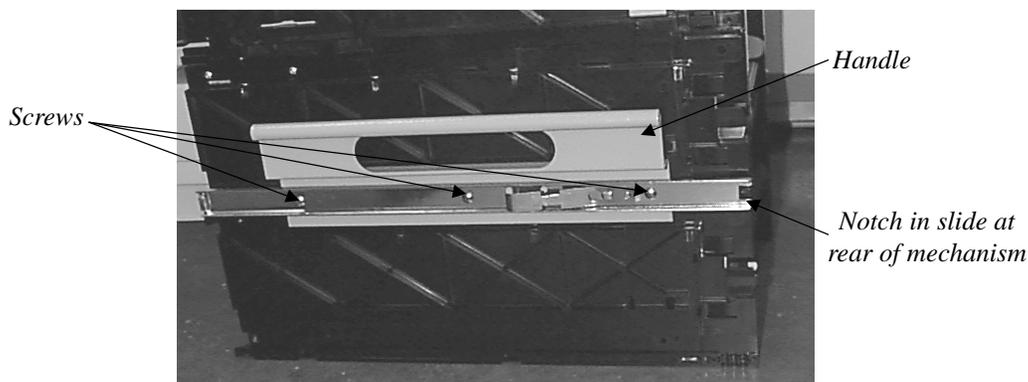

Figure 1.
- 3a.) Align the mounting holes in the handle and internal slide member to the three threaded holes in the side of the mechanism. Be sure that the notch in the slide member is toward the rear of the mechanism, as shown in Figure 1.